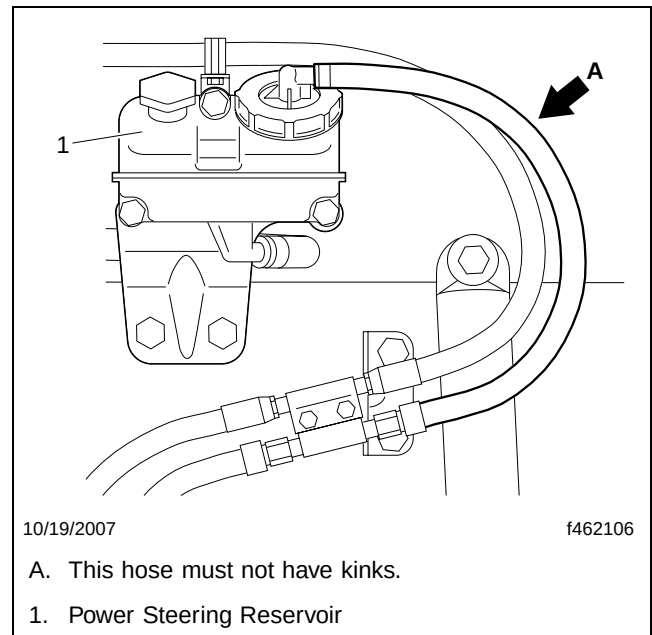

Fig. 6, Hose Routing From Power Steering Reservoir
30. Connect the return hose between the reservoir and formed line. The hose should have no necking or kinks that may impede the return fluid flow. See **Fig. 6**.